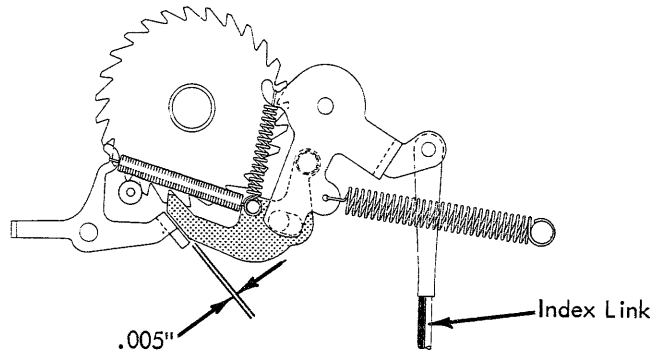

FIGURE 154. Platen Overthrow Stop
- 4. Platen Overthrow Stop - With the index cam rotated to its high point, adjust the platen overthrow stop to clear the index pawl by .005" (Fig. 154).